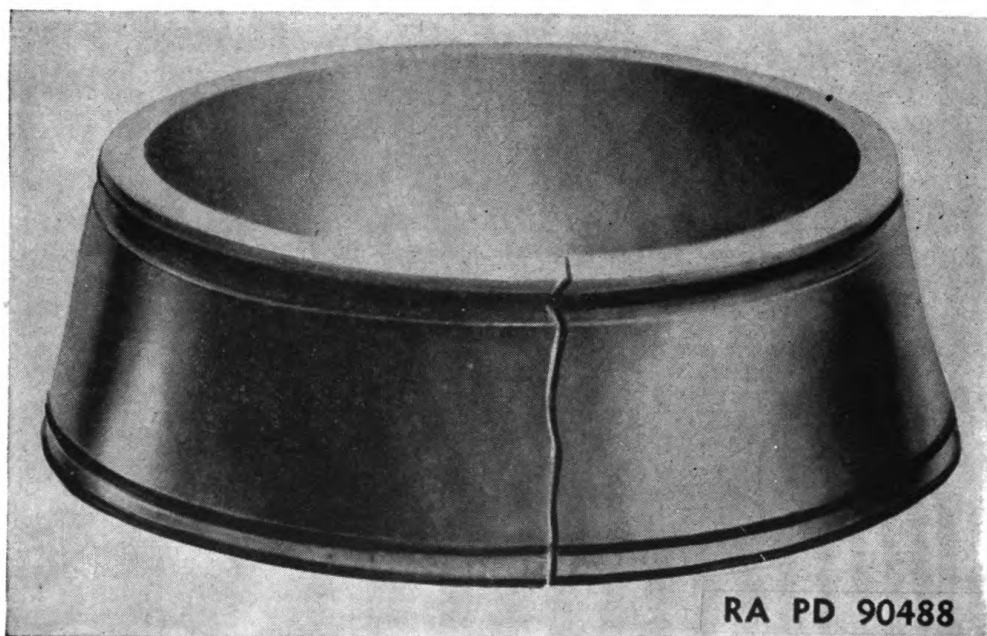

Figure 34. Cracked inner ring. Often due to wrong fit or improper force during removal.
(1) Broken, cracked, or split rings. (See fig. 34.) This is often due to wrong fit of bearings on shafts having diameters larger than specified, cocking the ring while installing or removing it, and improper force during removal.